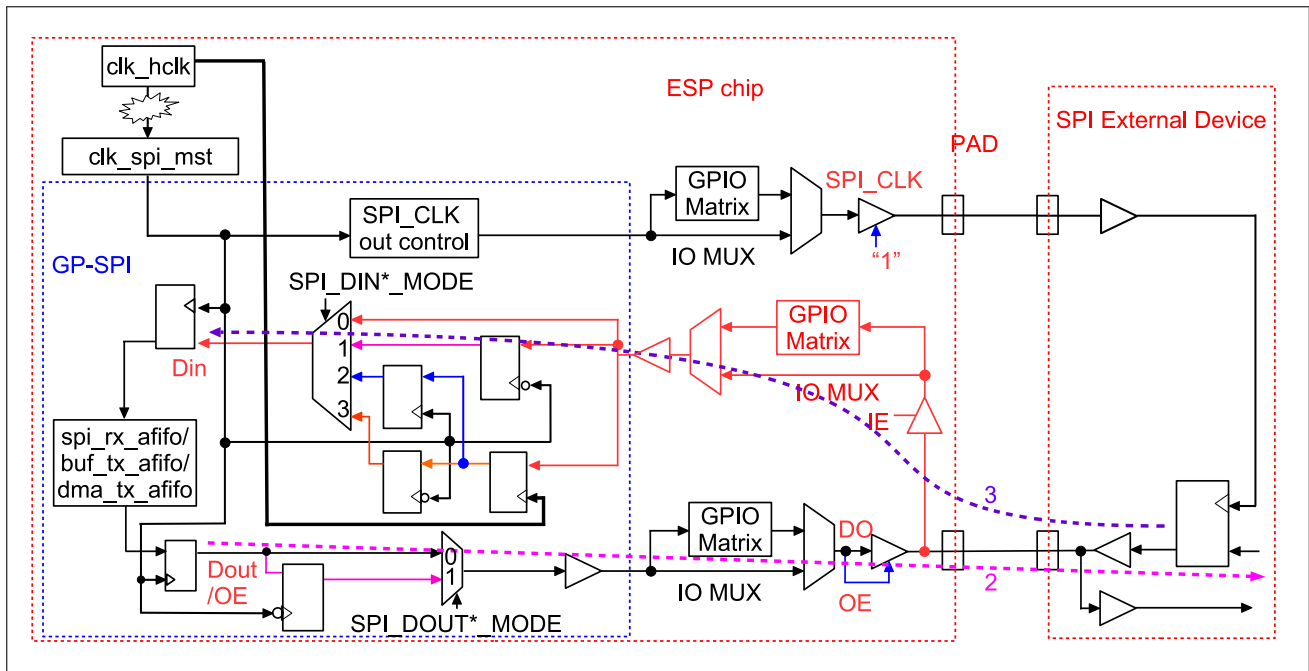

Figure 43.8-1. Timing Compensation Control Diagram in GP-SPI as Master
Figure 43.8-1 shows the timing compensation control for GP-SPI as master, including the following paths:
- “IN”: data input path of GP-SPI (see line 3 path in color purple in Figure 43.8-1). The input data from an external SPI device passes through GPIO matrix or IO MUX, then is adjusted by the Timing Module (see Figure 43.5-2) and finally is stored into spi_rx_afifo.
- “OUT”: data output path of GP-SPI (see line 2 path in color rose-red in Figure 43.8-1). The output data is sent out to the Timing Module, passes through GPIO matrix or IO MUX and is then captured by an external SPI device.